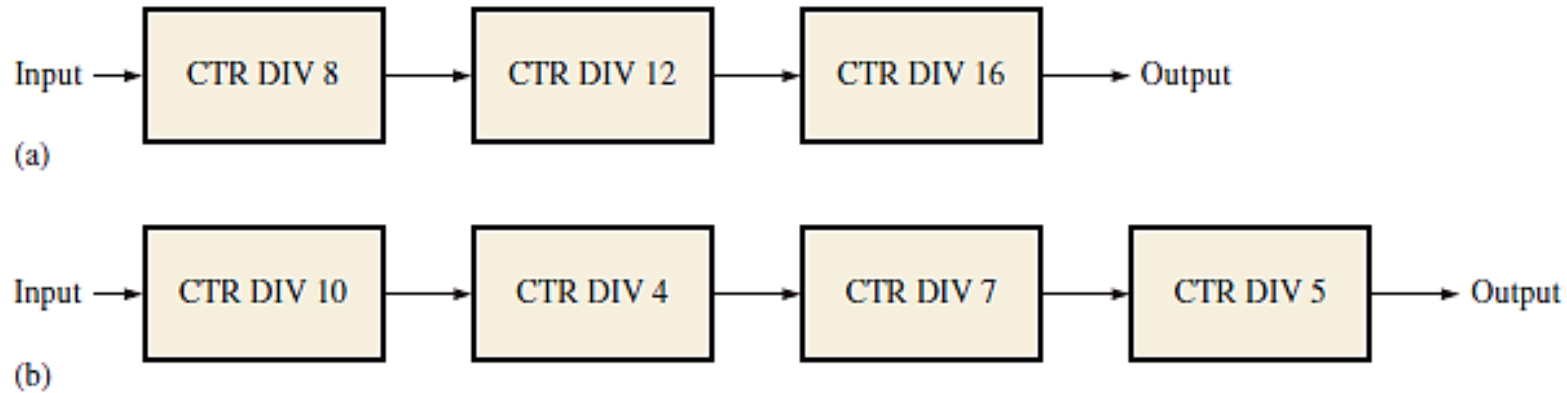

FIGURE 5
Determine the overall modulus of the two cascaded counter configurations in Figure 5.
- In Figure 5 (a), the overall modulus for the 3-counter configuration is $8 * 12 * 16 = \mathbf{1536}$
- In Figure 5 (b), the overall modulus for the 4-counter configuration is $10 * 4 * 7 * 5 = \mathbf{1400}$